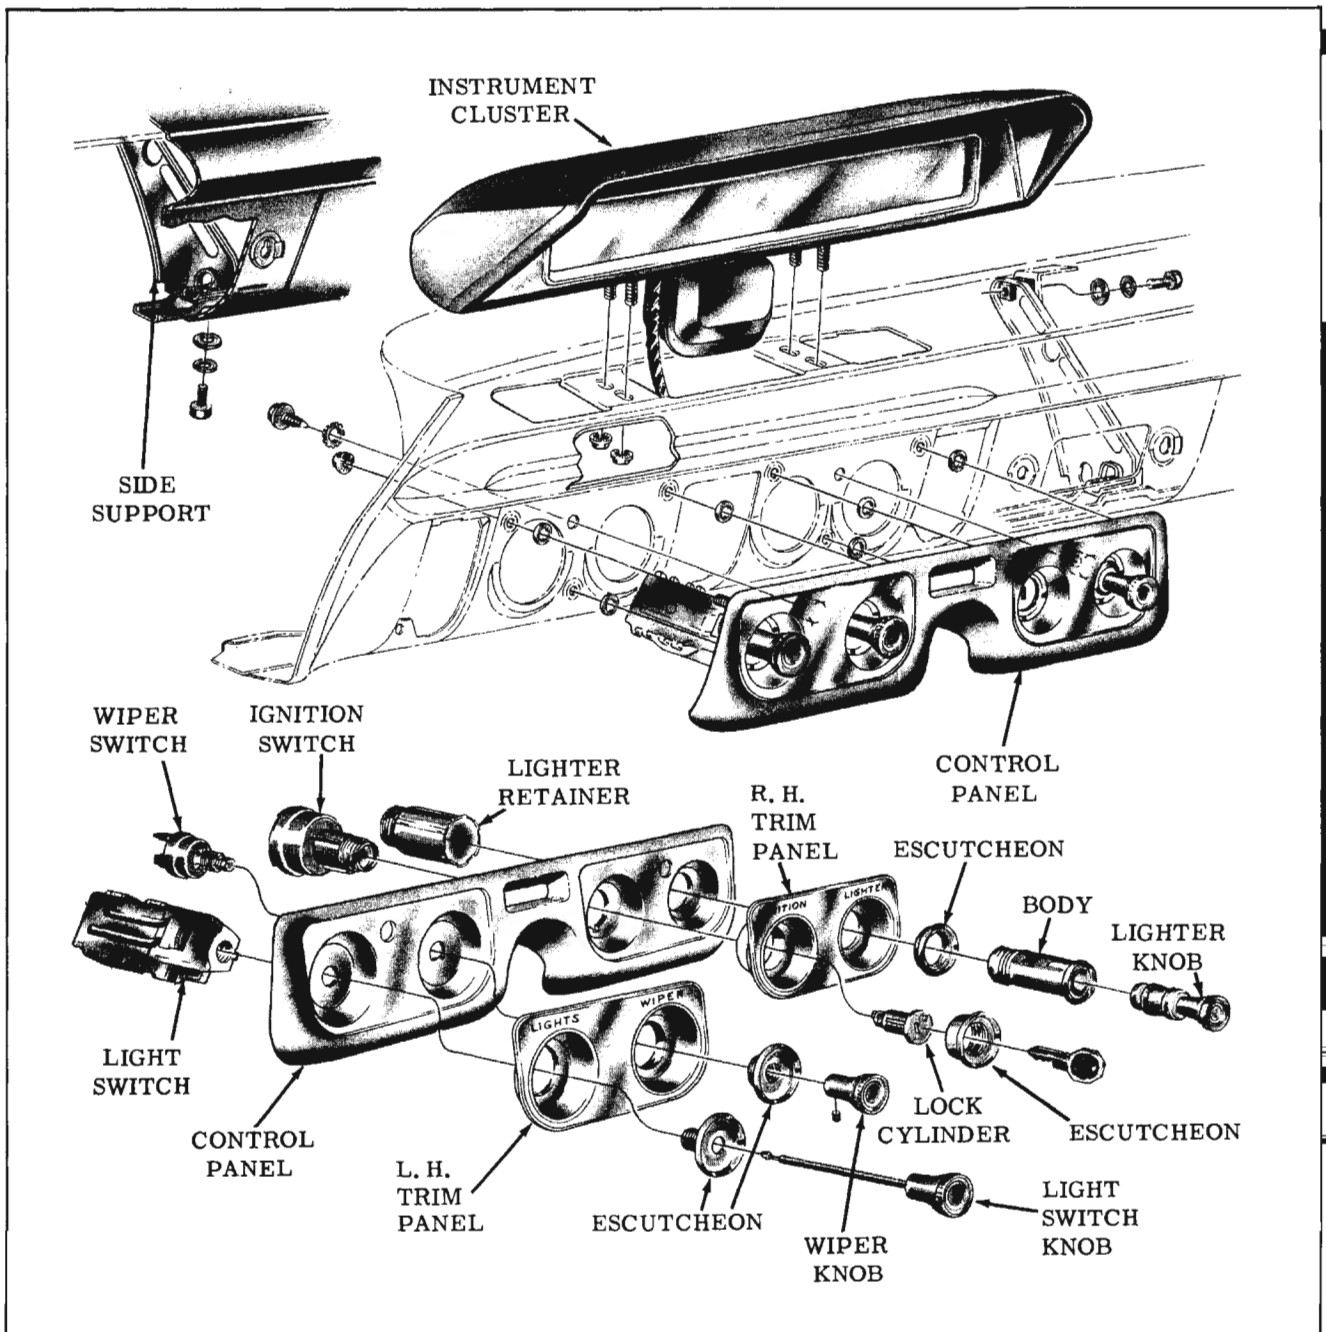

Fig. 13-102 Instrument Cluster and Panel Assembly
2. Remove the four cluster to instrument panel attaching nuts from under instrument panel, then remove cluster from top of instrument panel. (Fig. 13-102)
2. Remove cluster from instrument panel. (Fig. 13-102)
4. Remove headlight switch from rear of instrument panel. (Fig. 13-102)
2. Remove wiper control knob set screw and remove knob. (Fig. 13-102)